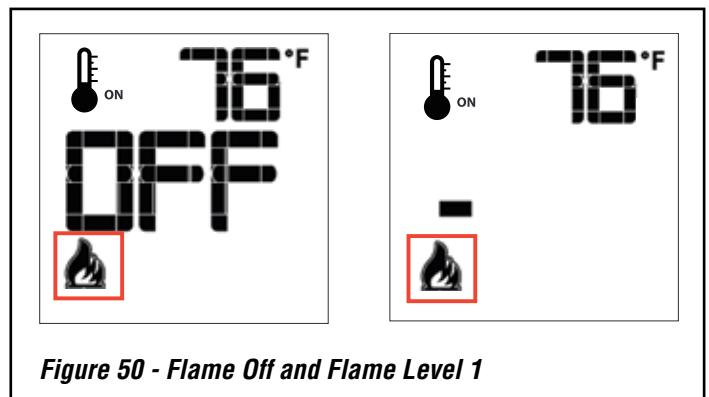

Figure 50 - Flame Off and Flame Level 1
When you turn on the fireplace it starts on high. The Proflame II has six (6) flame levels. Each time you press the Down Arrow Key once the flame height will reduce by one step (**Figure 50**).